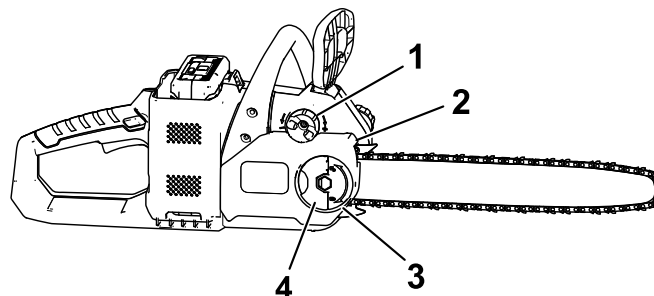

Figure 29
5. Tighten the wing nut until it is snug and fold the wing-nut tab (Figure 29).
2. Unfold the wing-nut tab and remove the wing nut that secures the cover (Figure 29).
3. Loosen the chain by turning the chain-tightening screw counterclockwise (Figure 29).